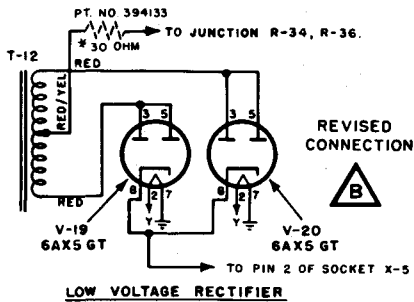

Fig. 63 — Emerson
**Reducing excessive horizontal size at high line voltages (see Fig. 63).**